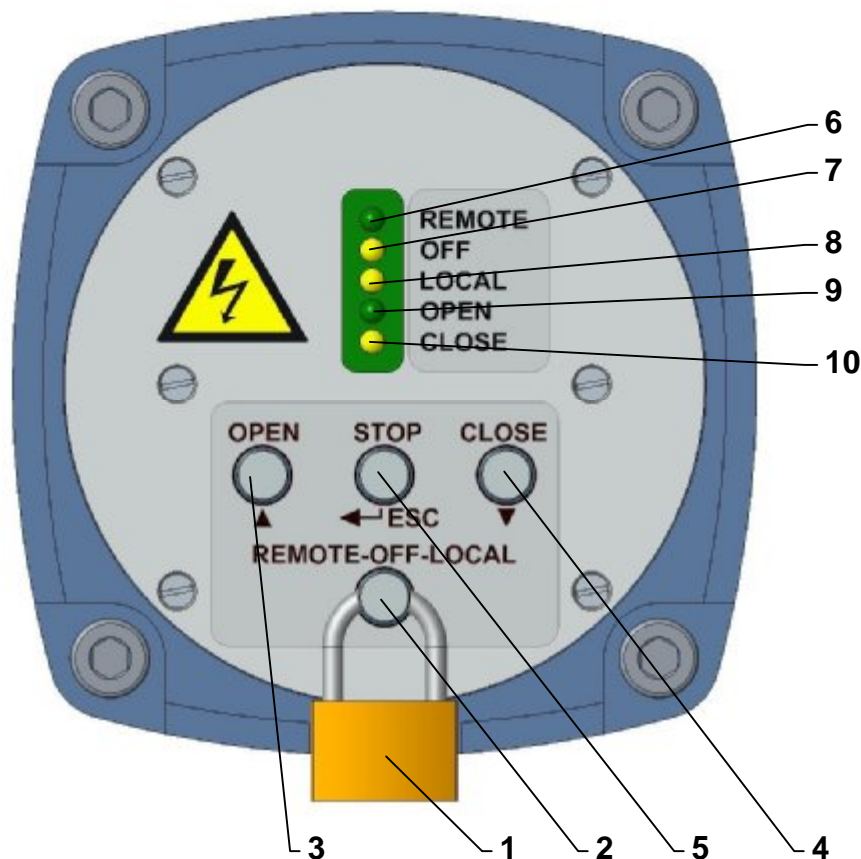

FIG.. 14
4.9 Local electric control (Fig.14)